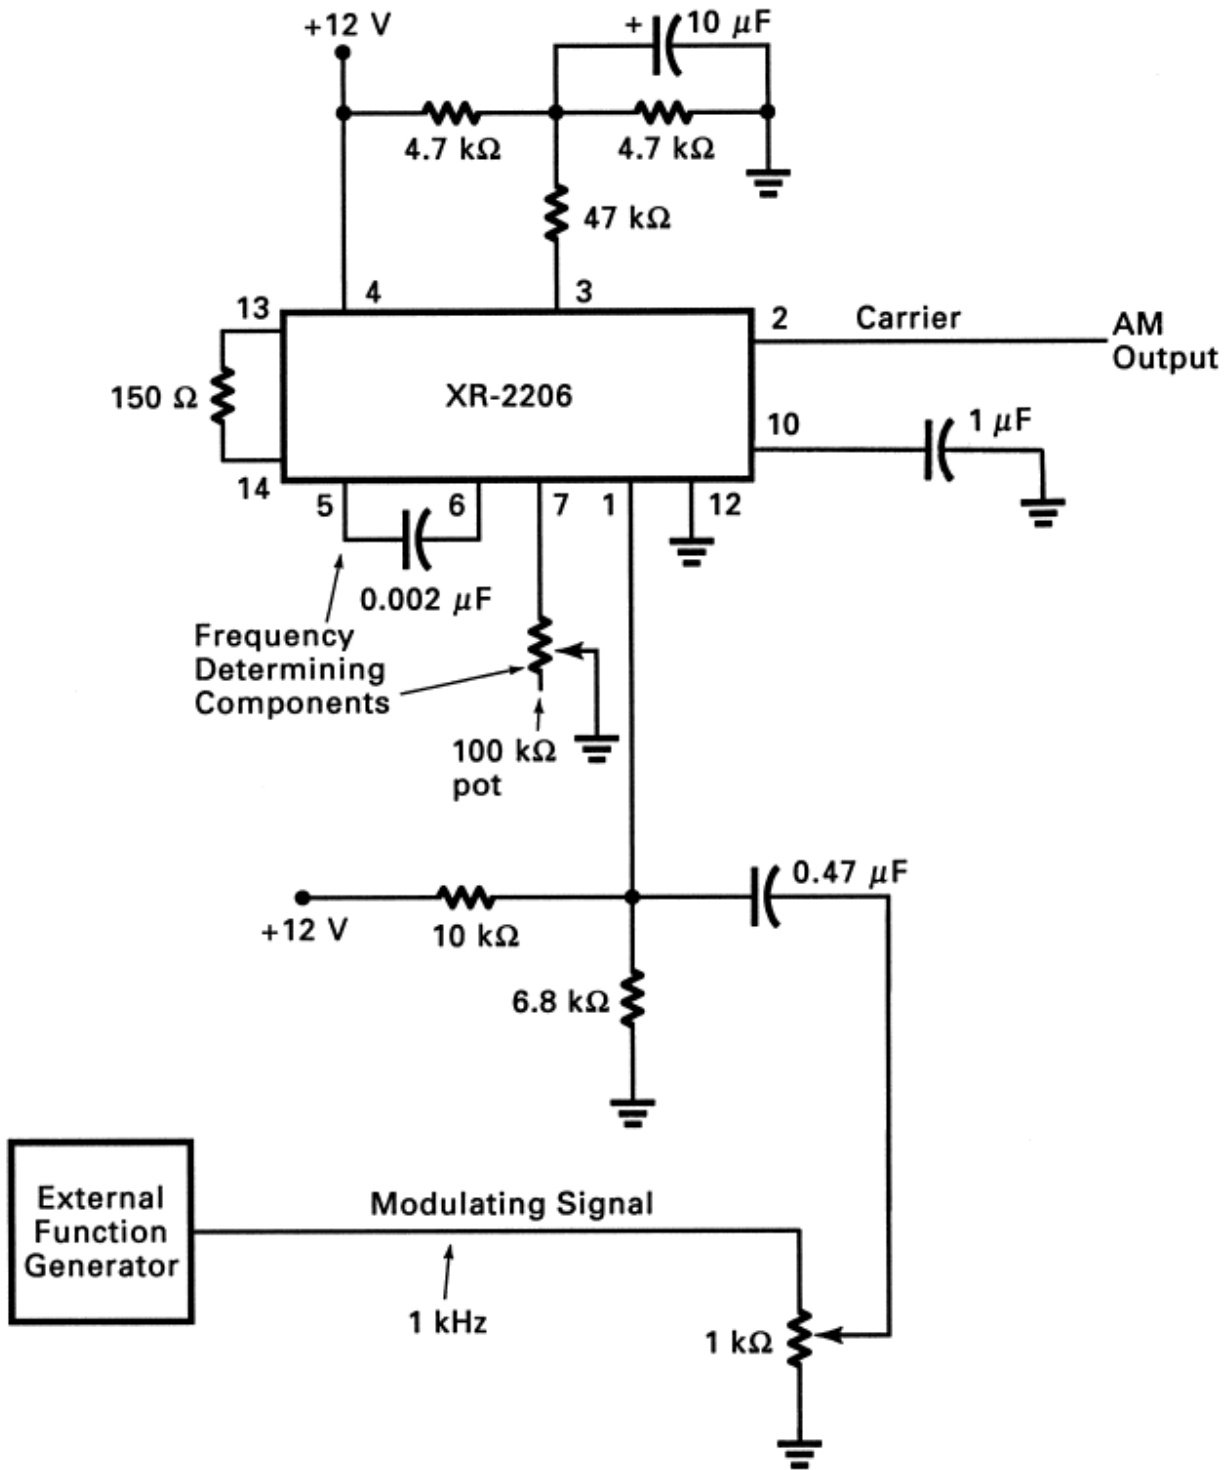

Fig. 3-5 Amplitude modulation of the 2206 function generator IC.
1. Construct the circuit shown in Fig. 3-5. You will use the external signal function generator with a 1-kHz output to modulate the
5. Apply power to the 2206 function generator IC you constructed in Lab Experiment 2-1. Adjust the output for a frequency of 35 kHz. Set the modulating signal frequency to 1 kHz. While observing the output at pin 2 of the 2206 (see Fig. 3-5), increase the modulating signal amplitude until 100 percent modulation is achieved. Predict what signal the spectrum analyzer will display and sketch it. (*Note:* If your spectrum analyzer will not accommodate the 35-kHz carrier, reduce the carrier frequency by